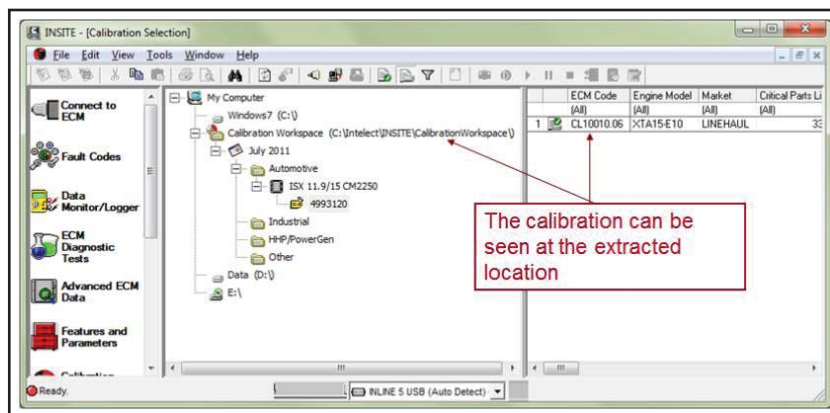

Figure 15 - Calibration File Location
1.15. Calibration software will be found in the extracted location as below. See Figure 15.